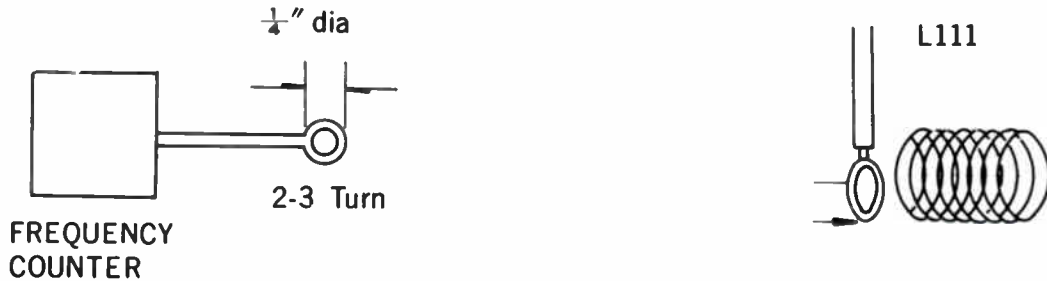

Figure 4 1st LOCAL OSCILLATOR
STEP 2. Couple the frequency counter thru a pickup coil to oscillator coil L111. Refer to Figure 4